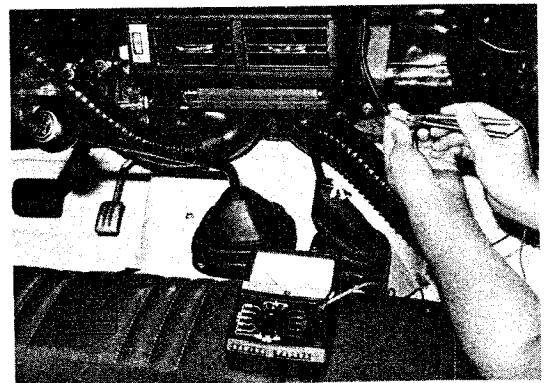

Fig. 75
- a) When placing the THERMOSTAT dial at "OFF" position, circuit tester indicates infinity ( $\infty$ ). See Fig. 75.